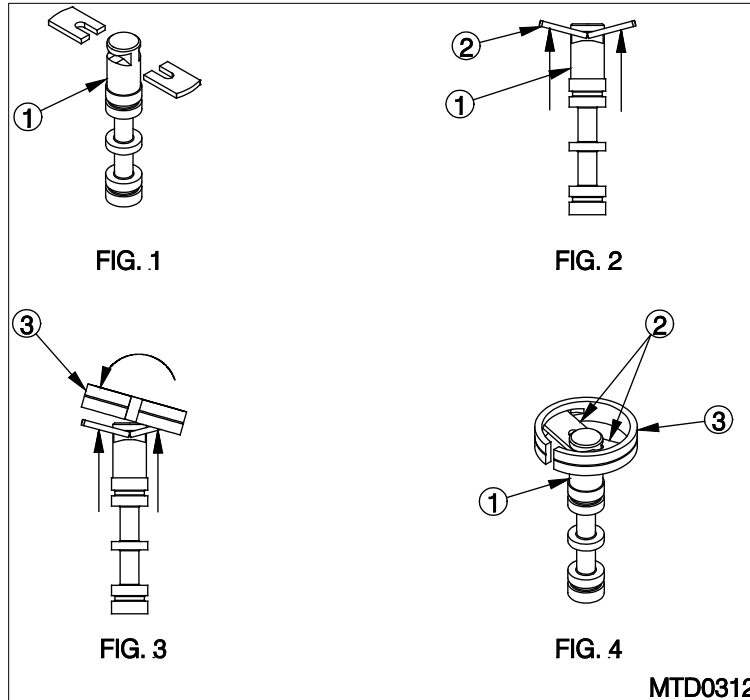

Figure 4-4: Shuttle Spool Assembly
4.8.b Shuttle spool assembly instructions (See Figure 4-4 for details)
- Hold shuttle spool (item 1) upright and align slot and in detent legs (item 2) with notch on shuttle spool.
- Tilt the detent ring (item 3) over one of the legs and align the groove on the inside of the detent ring with the end of the detent leg. Tilt the other side of the ring down, expanding it slightly, so that the other detent leg snaps into the detent ring groove.